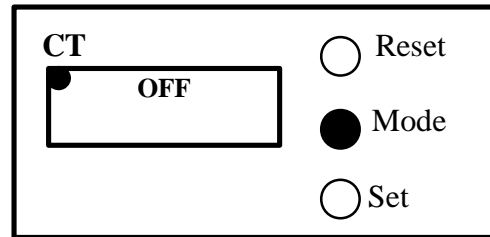

Figure 2
1. To set a counting goal, hit **MODE** until the red dot is in the upper left corner under **CT**. The screen will display the word **OFF** (Figure 2).